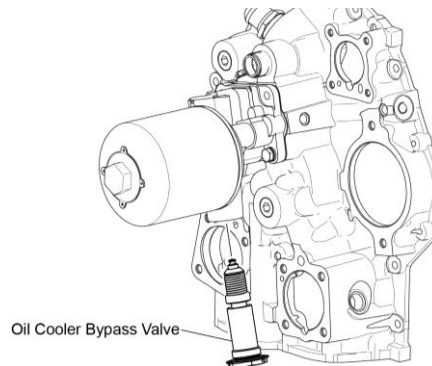

Figure 3
On engines with an oil filter (Figure 3):
3. Install the thermostatic oil cooler bypass valve with a new gasket on the oil filter base as shown in Figure 3.